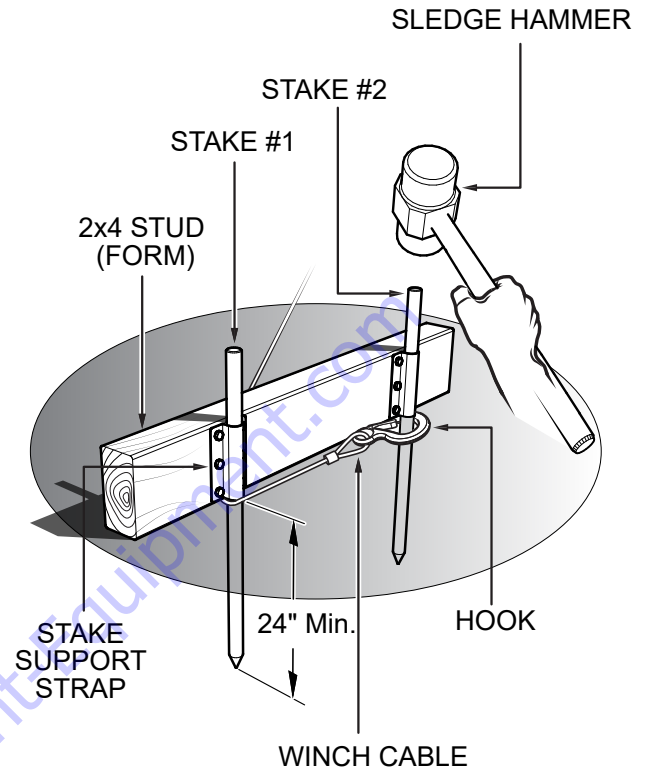

Figure 17. Attaching Winch Stakes
Figure 17 illustrates the correct method of attaching the winch cables to the form stakes. If the winch cables are not attached to the form stakes correctly, the cables could snap loose causing **severe bodily harm** and damage to the equipment.
2. Loop the hook end of the winch cable around the first stake from the end of the form as shown in Figure 17. Make sure you go underneath the form.
**DO NOT** hook winch cables to a stake driven directly into the ground. Stakes should be installed as shown in Figure 17. The stake can tilt and allow the winch cable under tension to snap and break free causing **severe bodily harm** and damage to equipment.